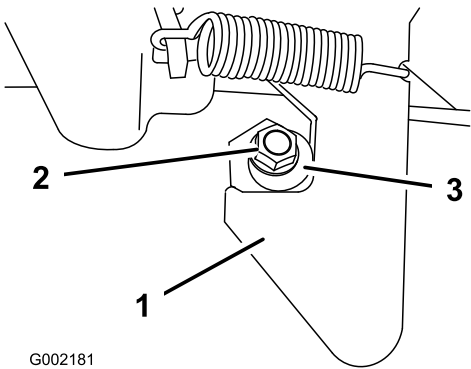

Figure 21
- 4. Loosen the locknut on the end of the latch post (Figure 21).
- 5. Rotate the latch post clockwise until it is snug against the hook portion of the latch (Figure 21).
- 2. Gently lower the front of the cargo box until the latch contacts the latch post (Figure 21).